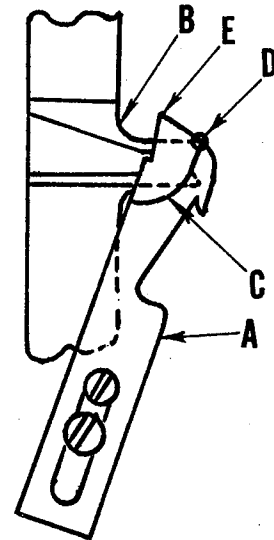
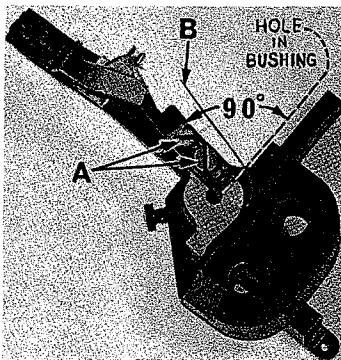
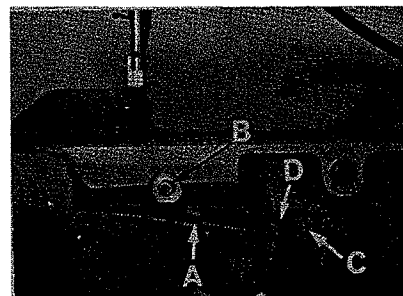

Fig. 29
Fig. 30
Fig. 32
2. Position upper knife (D) parallel with the left side of the arm of the positioning finger. Check to see that the lower knife is parallel with the upper knife. If this is not so, loosen the finger set screw (E) and turn the eccentric bushing (F) until the knives are parallel. A good starting point would be to have the pin hole in the eccentric bushing (F) located approximately 90° to the right side of the arm of the positioning finger (Fig. 30).
The lower knife (A, Fig. 29) in its extreme left position should not extend beyond the left side of the arm of the positioning finger (B). As the lower knife moves to the right, the run out of the cutting edge (C) must coincide at a point of the positioning finger as indicated at point (D). To make these adjustments, loosen screws (A, Fig. 30) and position knife.
(A. Fig. 32) is in position.
5. Adjust the lower knife stop screw (B, Fig. 32) so when the lower knife is in its extreme right hand position, the left corner (E, Fig. 29) is in line with the left side of the needle slot in the bobbin case holder.
6. Be sure the spring retainer wire (B, Fig. 30) contacts the bobbin case holder when the lower knife is in its extreme right hand position. If the spring wire does not make contact, bend retainer wire to suit.
7. Knife return spring (A, Fig. 32) to have proper tension to cut threads. To adjust tension of knife return spring loosen screw (C) and move tension spring bracket (D) to the right to increase tension or to the left to decrease the tension.